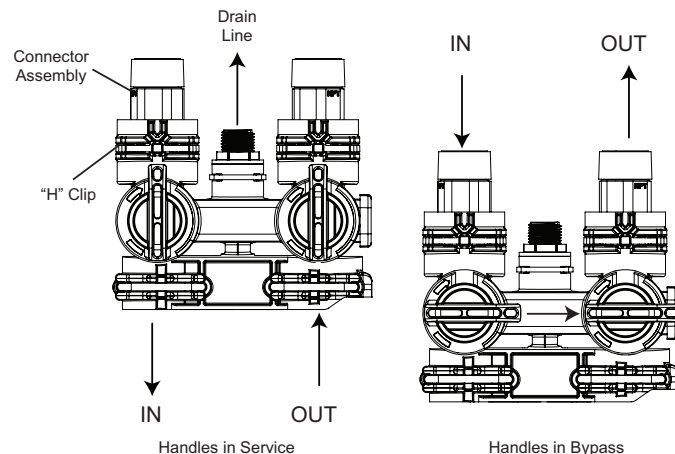

Figure 7 Bypass Operation
**IMPORTANT:** The bypass valve is shipped to you in the **bypass position** (Figure 7 Bypass Operation). When the valve is in **bypass water will not enter the softening tank**. The water in the building will not be treated. **Figure 7 Bypass Operation**, shows the handles in the **service position**.
Once you have selected your location check the direction of the waterflow in the main pipe. Figure 7 Bypass Operation can be used to plan the new plumbing assembly.